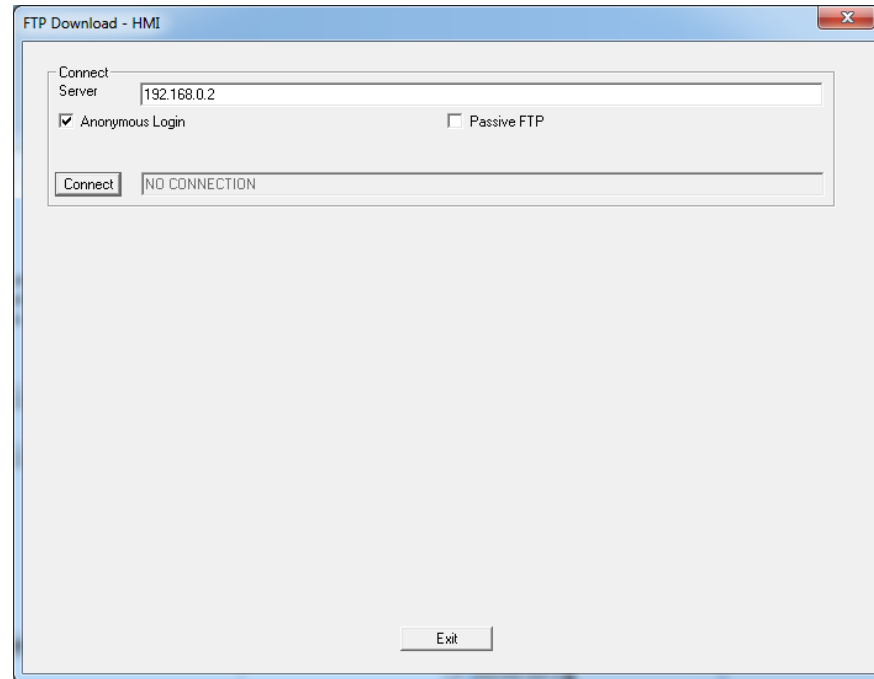

Figure 7-4 WebVisit: FTP download to the controller
- In the “Connect” area, set the IP address of the controller under “Server” (“192.168.0.2” in the example, see Figure 7-4).